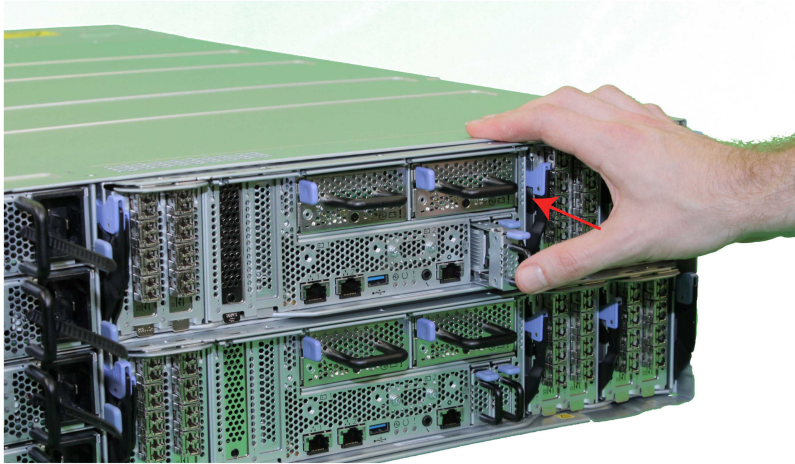

Figure 104. Inserting the boot drive
11. Slide the boot drive into the boot drive slot, and press in until the latch clicks in Figure 104 on page 165